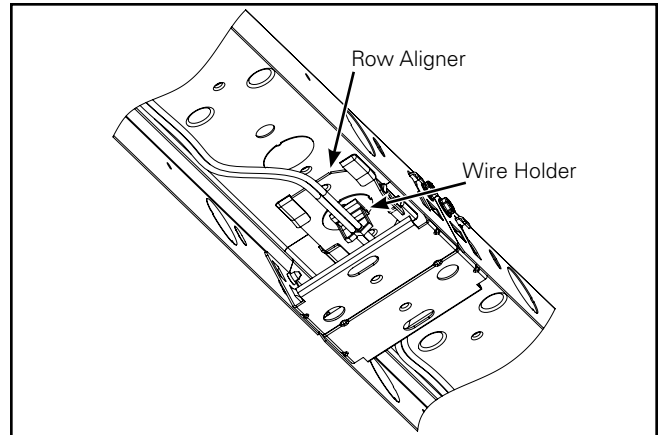

Figure 5.
6. Insert harness into wire holder if applicable (Figure 5.).